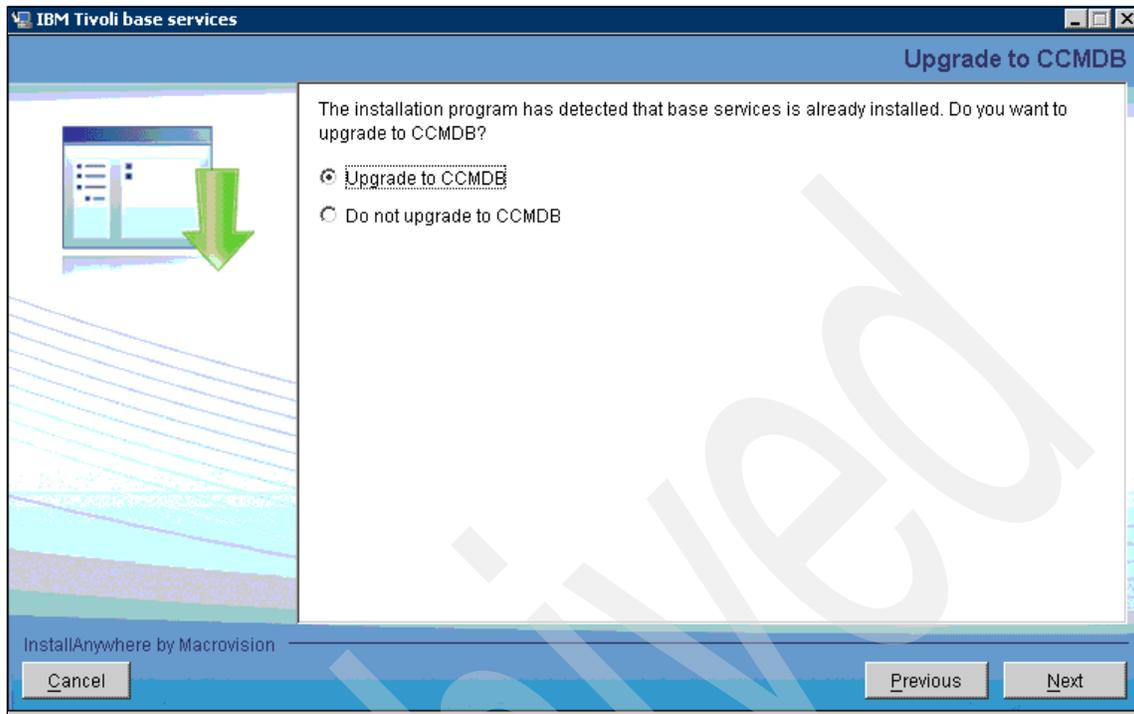

Figure 6-3 Upgrade window
4. After accepting the license agreement, the upgrade window appears. This window appears when the installation detects that the TPAP is already installed on this server. Refer to Figure 6-3 on page 193.